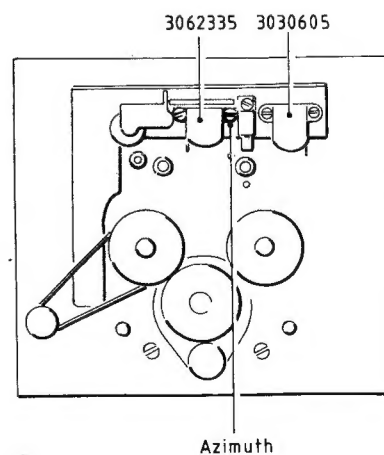

Fig. 9
A gradual degeneration of erase characteristics generally indicates the necessity of replacing the erase head (Fig. 9, 3030605).
Should a loss of high-frequency signals be noted in the reproduced program, the calibration and test procedures of Sections 9, 10 and 13 should first be conducted. If specified performance cannot be attained, replace the record/playback head (3062335, Fig. 9) as follows:
- In the PLAY mode, turn the right-hand mounting screw of the record/playback head (Fig. 9) to achieve the maximum output voltage and the identical phase in both channels. Avoid secondary voltage maxima!
- c) Feed in a 333 Hz sinewave signal and set the voltage level at MP 1 (L) and MP 2 (R) to -30 dBm (app. 25 mV) with the signal generator or the INPUT level controls. This level is to be retained for the entire calibration procedure.
- d) Switch the signal generator frequency to 14 KHz. Adjust the signal level to -30 dBm at MP 3 (L) and MP 4 (R) with R 111 (L) and R 112 (R).
- e) Switch back to 333 Hz. Adjust the signal level to -30 dBm at MP 3 (L) and MP 4 (R) with R 107 (L) and R 108 (R).
- f) Repeat steps d and e to eliminate level differences between 333 Hz and 14 KHz and thereby achieve a linear frequency response. If the frequency characteristic at high frequencies is not sufficiently linear, check the condition of the record/playback head (3062335, Fig. 9) and replace, if necessary, according to Section 8.